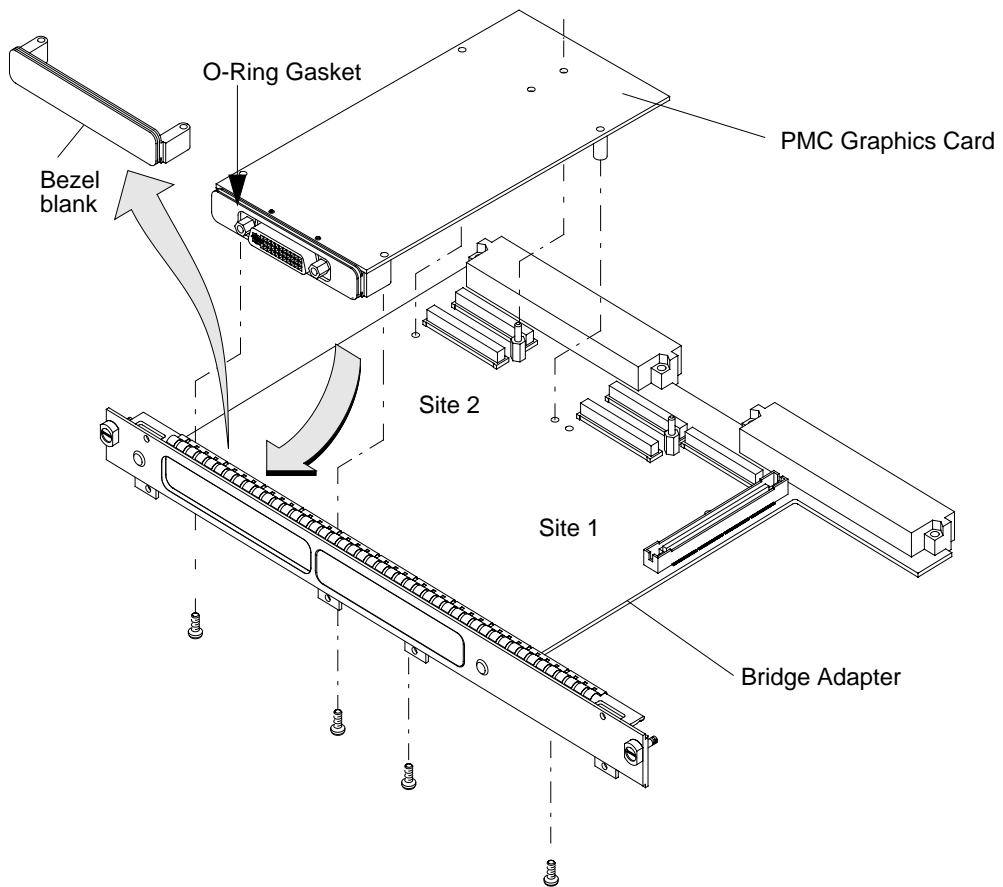
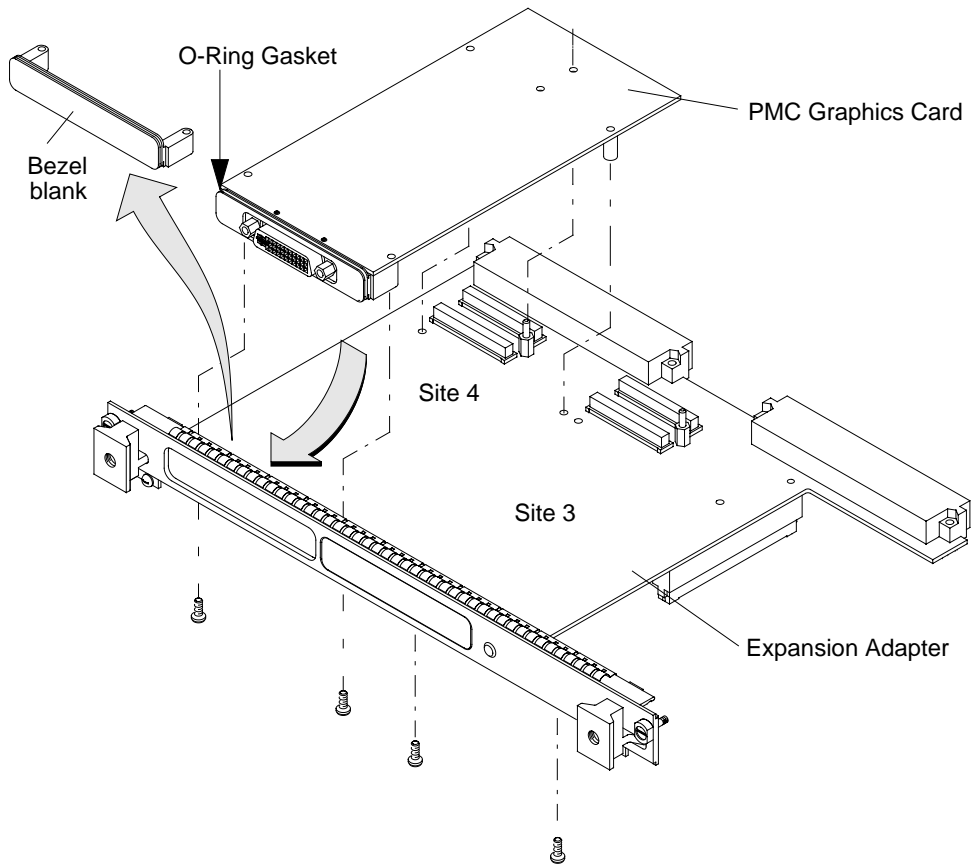

Figure 1 **Installing a PMC Card onto the Bridge Adapter**
Figure 2 **Installing a PMC Card onto the Expansion Adapter**
- 7 On the PMC bridge adapter or expansion board, at the site where you will be installing the PMC card, remove the two screws that secure the bezel blank, and remove the blank. See Figure 1 and Figure 2.
- 8 Install the PMC card onto the adapter by aligning the front of the card with the front bezel, and the rear of the card with the connectors and keying pin. See Figure 1 or Figure 2. There are four screws that secure the PMC card from the bottom of the adapter (use the screws included with the kit).